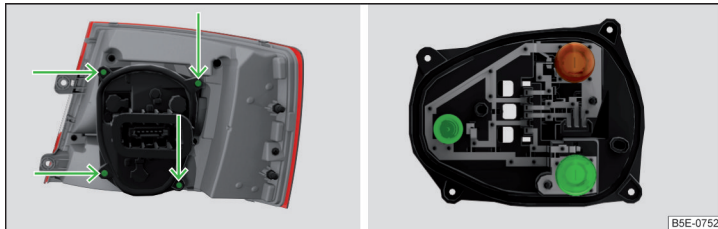

Fig. 362 Outer part of the lamp/holder with bulbs
- › Unscrew the lamp holder » Fig. 362 with the screwdriver from the car tool kit, and remove the lamp holder from the light assembly.